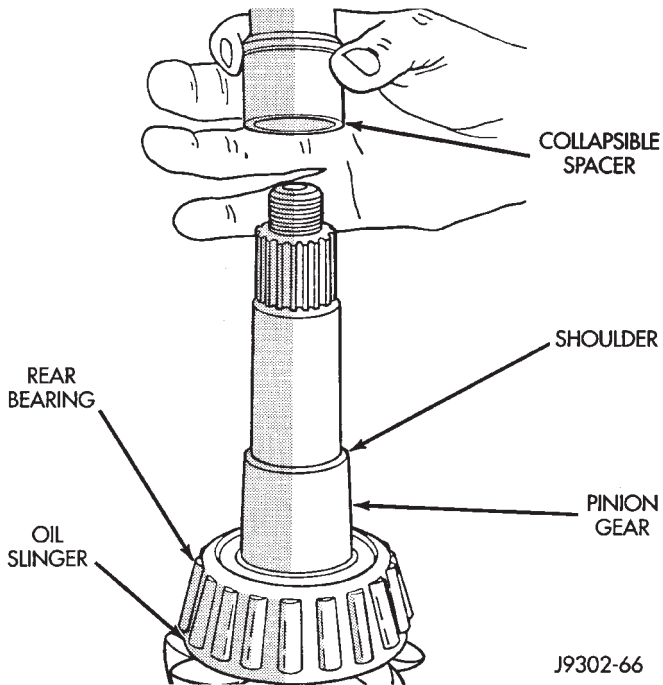

Fig. 28 Collapsible Spacer
(12) Remove the collapsible preload spacer (Fig. 28).